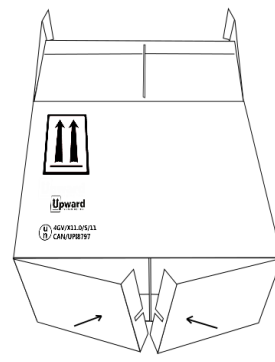

Figure 2
2. Seal bottom of carton with one strip of 48mm wide, 3M #305 clear packing tape (or equivalent). Extend tape beyond each edge by at least 2". (See Figure 2)